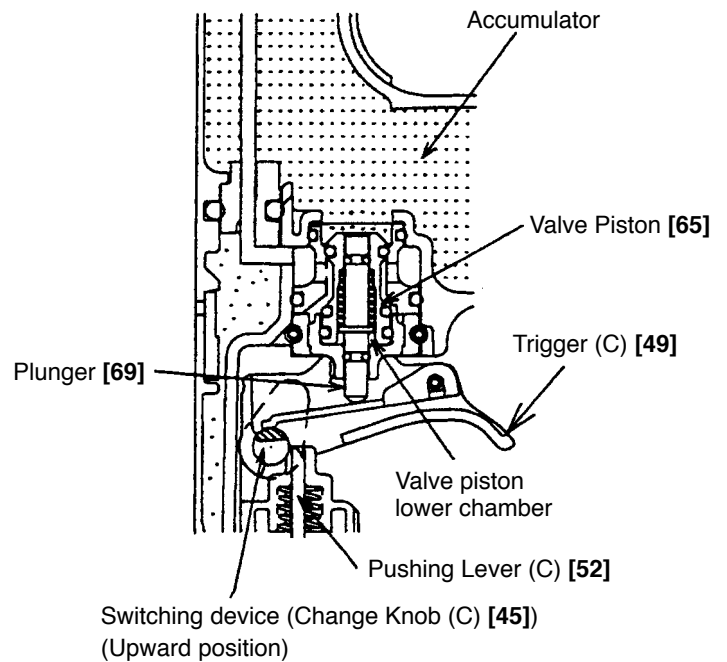
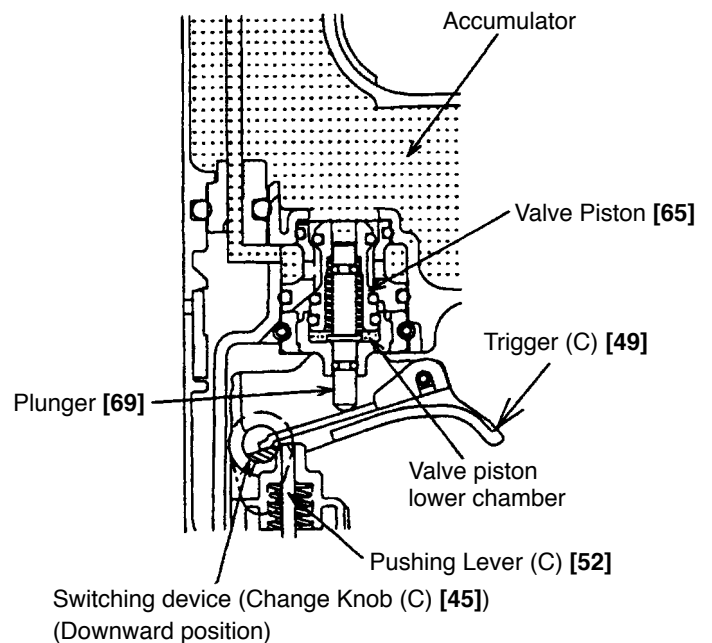

Fig. 8 Single actuation mechanism
Fig. 9 Contact actuation mechanism
(4) Single actuation mechanism/contact actuation mechanism: (Fig. 8 and Fig. 9)
- 2) When only Pushing Lever (C) [52] is released and Trigger (C) [49] is held as shown in Fig. 8, the plate of Trigger (C) [49] contacts Change Knob (C) [45] and the Plunger [69] returns (lowers) only halfway.
- 2) Even when only Pushing Lever (C) [52] is released and Trigger (C) [49] is held, the Plunger [69] returns (lowers) completely as shown in Fig. 9. Thus the Piston [13] returns (raises) fully. Accordingly, continuous nailing can be accomplished by pushing only Pushing Lever (C) [52] up and down while holding Trigger (C) [49] depressed.